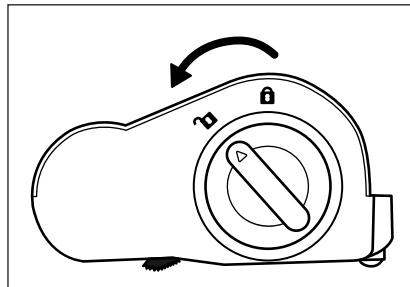

Fig. 26
- Only use the appliance with the rotary brush ⑩ properly mounted.
- Clean the rotary brush ⑩ regularly to ensure proper operation of the appliance and avoid malfunctions.
- 1) Remove the floor brush ⑪ from the suction pipe ⑫ or from the appliance (see section **Dismantling the appliance**).
- 2) Unlock the rotary brush ⑩ by turning the rotary brush release ⑬ towards the symbol (open) (see Fig. 26).